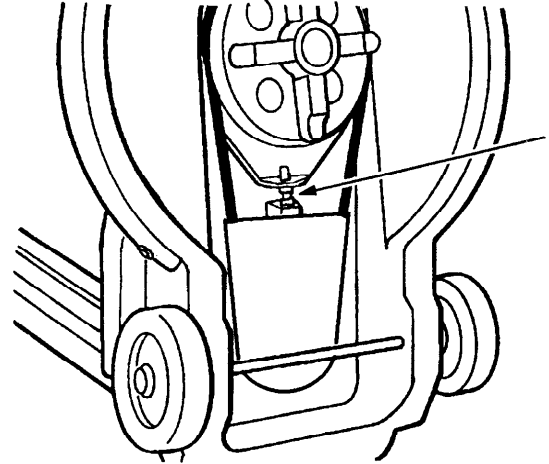

FIG. 7.
7. Once a month check tension of drive belt. To tighten belt: Remove pad driver and loosen (4) hex screws on pad driver pulley bracket. Locate belt tension bolt and loosen lock nut, turn tension bolt clockwise until belt is taut, retighten lock nut (Fig 7).